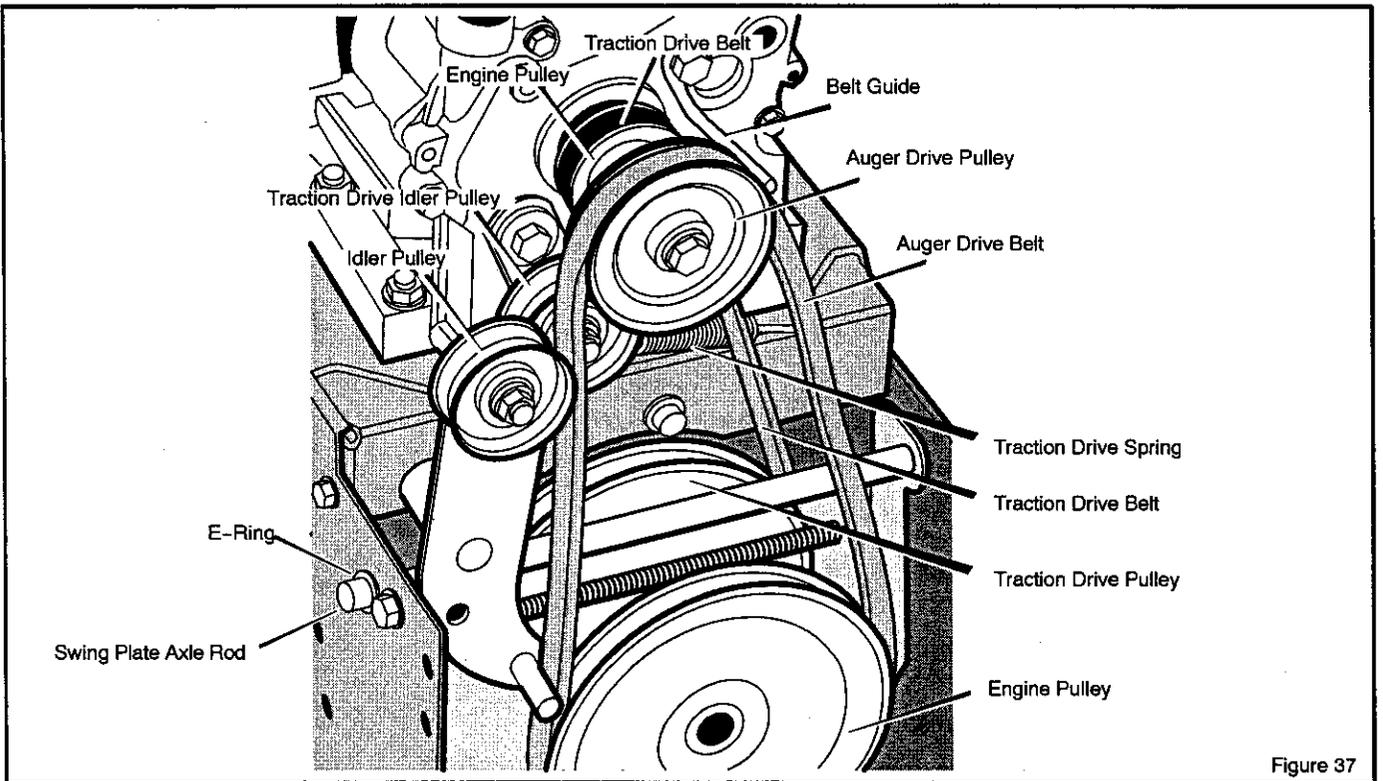

Figure 37
3. Loosen nut on auger idler pulley and move auger idler pulley towards belt about 1/8 inch (3 mm) (see Figure 37).
5. Loosen the **belt guide**. Pull the **belt guide** away from the **auger drive pulley** (see Figure 37).
9. Remove the old **auger drive belt** from the **auger drive pulley**. Replace the **auger drive belt** with an original factory replacement belt available from an authorized service center (see Figure 37).
3. Remove the **e-ring** from one end of the **swing plate axle rod**. Remove the **swing plate axle rod** to allow the swing plate to pivot forward (see Figure 37).